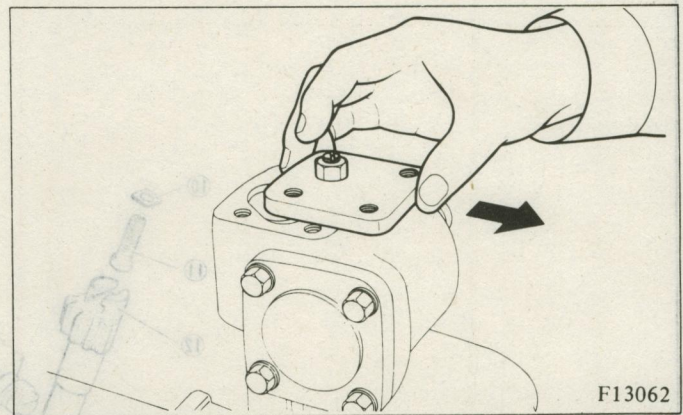

Fig. 20 Removing the Upper Cover and Adjusting Bolt
- (1) Loosen the lock nut for the gear box adjusting bolt and turn the bolt slightly counterclockwise. Then remove the upper cover bolts.
- (2) Slide the upper cover up and remove it from the crossshaft. Then draw out the adjusting bolt from the upper cover. (Fig. 20)